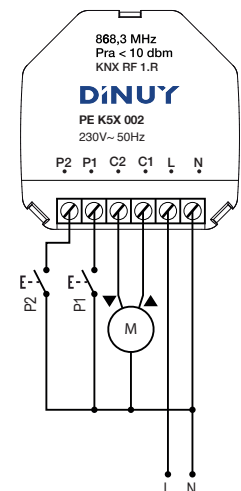

Fig. 3
- Fig. 3: Control of 1 Blind/Shutter
- Fig. 3: Control de una Persiana/Toldo